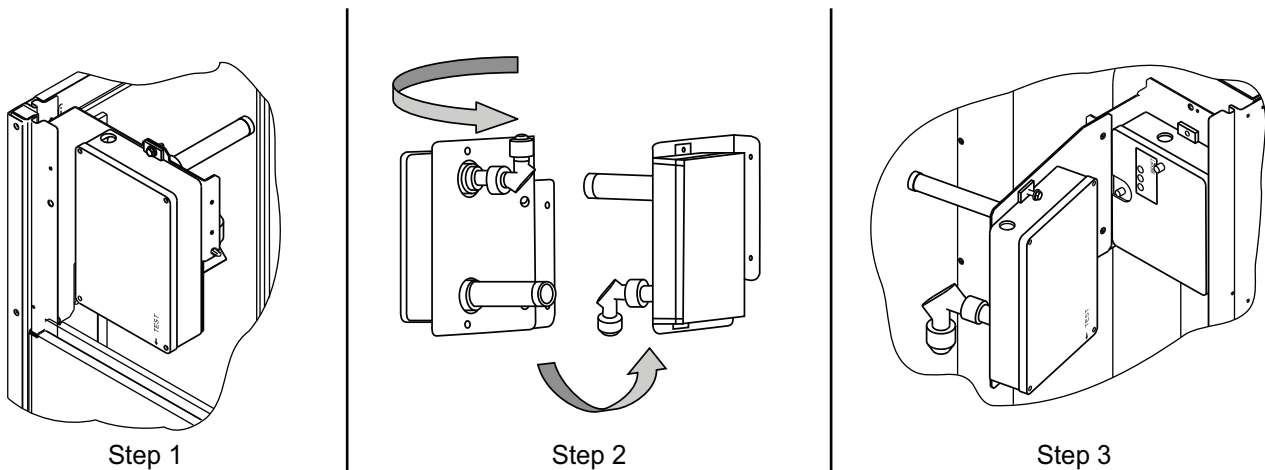

Fig. 67 — Completing Installation of Return Air Smoke Sensor
2. Unscrew the two screws holding the return-air smoke detector assembly. See Fig. 67, Step 1.
4. Turn the assembly 90 degrees and then rotate end to end. Make sure that the elbow fitting is pointing down. See Fig. 67, Step 2.
5. Screw the sensor and detector plate into its operating position using screws from Step 2. See Fig. 67, Step 3.